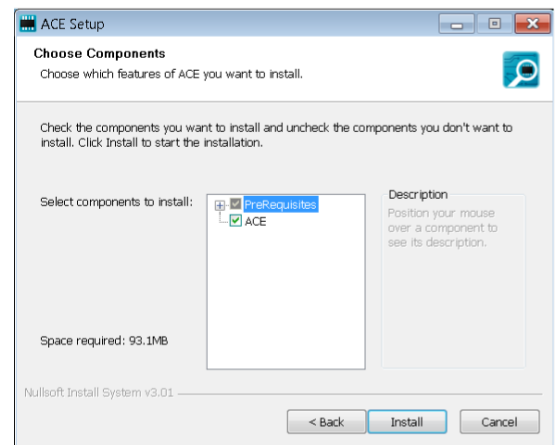

Figure 5. Choose Components
7. Select the **Pre-Requisites** checkbox to include the installation of the **SDP-H1** driver. Click **Install** (see Figure 5).